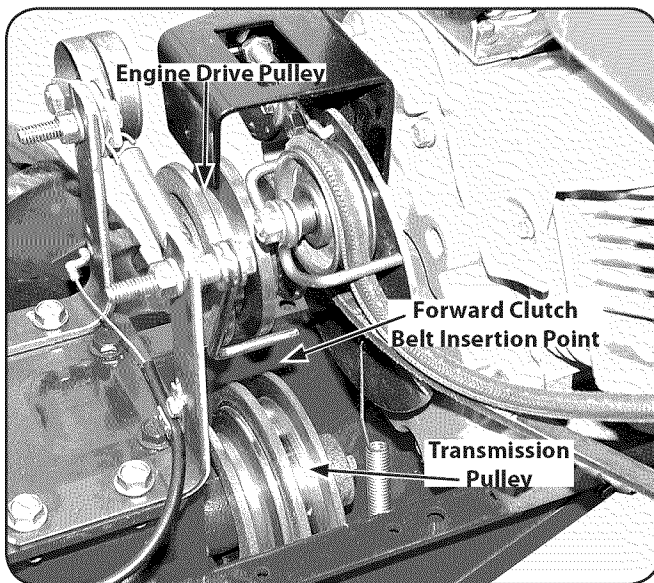

Figure 7-5
- From the front of the tiller, insert the forward clutch belt in between the bottom of the engine drive pulley and the top of the transmission pulley. See Figure 7-5.
- Reinstall the reverse clutch belt. Insert the bottom of the belt into the frame, then pull down on the belt and roll it onto the large, forward-most groove of the transmission pulley. See Figure 7-5.